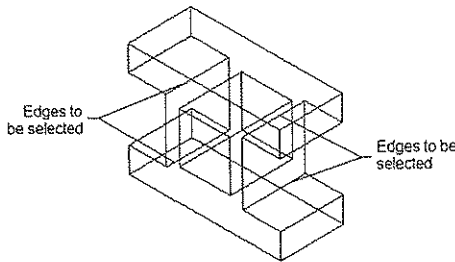

Figure 3-49 Edges to be selected for creating the blend feature
2. Press the CTRL key and select the four edges of the model, refer to Figure 3-49. You can use the tools available in the **Graphics** toolbar to rotate the model to view its respective edges.